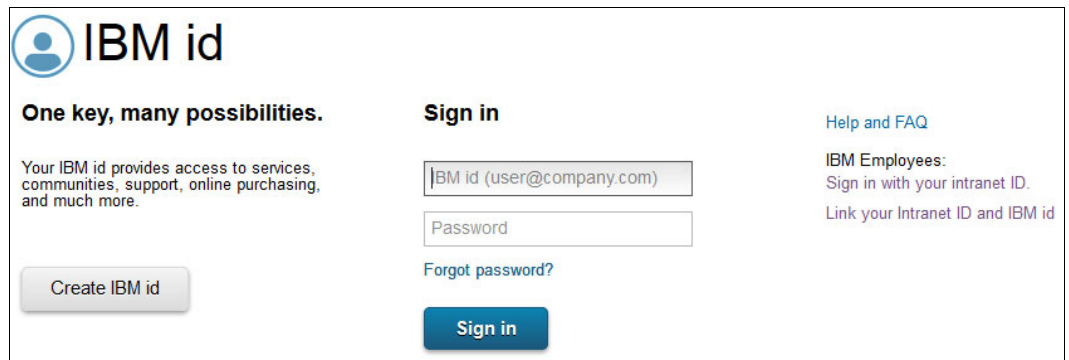

Figure 2-38 Features on Demand sign in page
3. In the Sign in page that is shown in Figure 2-38, enter your IBM ID and password and click **Submit**.